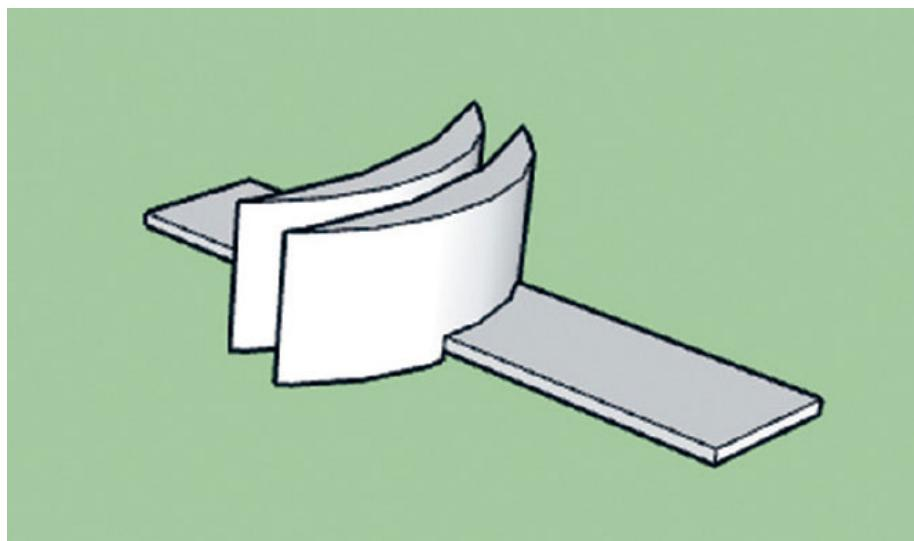

FIG. 6: Merge the base with the walls.
6. Merge the base with the walls to complete the menu holder design (fig 6).